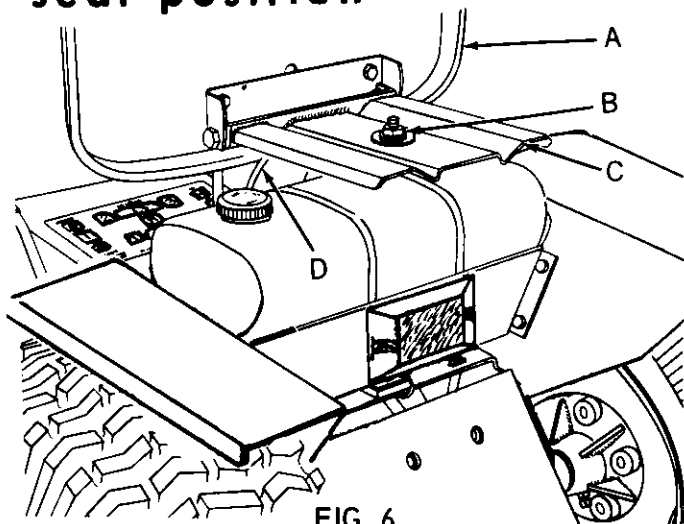

FIG. 6
1. The seat (A), may be moved forward, or backward, to give the most comfortable, and safe operating position. To move the seat, tip seat forward, as shown in Fig. 6. Loosen nut (B) slide seat (A) to desired position. Tighten nut (B) securely. Make sure that seat plate weldment (C), has not twisted out of alignment, with seat spring (D).